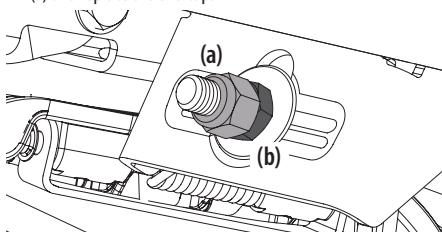

Figure 33
- To raise the front of the deck, remove the end cap, loosen the outer jam nut (a) then tighten (thread inward) the inner nut (b) against the front hanger bracket. See Figure 33. When proper adjustment is achieved, re-tighten the outer jam nut (a) and replace the end cap.
- To lower the front of the deck, remove the end cap, loosen the outer jam nut (a) then loosen (thread outward) the inner nut (b), away from the front hanger bracket. See Figure 33. When proper adjustment is achieved, re-tighten the outer jam nut (a) to 57 ft-lbs (77 N-m) and replace the end cap.